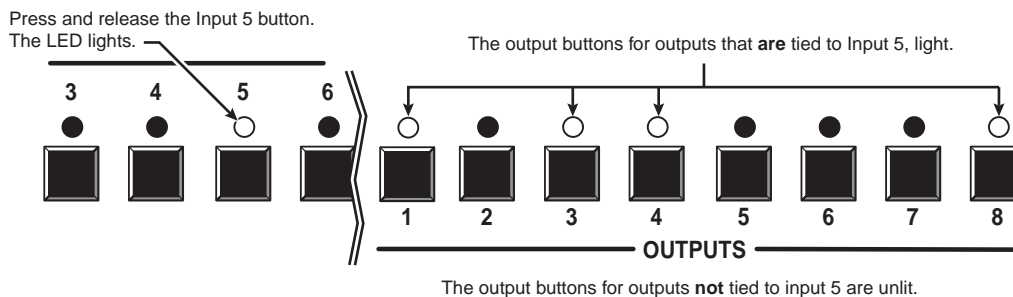

Figure 3-24 — Select an input
4. Press and release the input 5 button (figure 3-24).